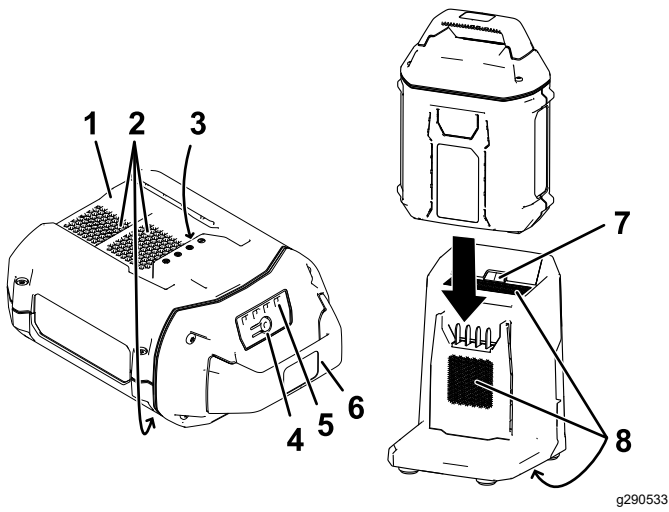

Figure 26
- Line up the cavity in the battery pack (Figure 26) with the tongue on the charger.
- Slide the battery pack into the charger until it is fully seated (Figure 26).